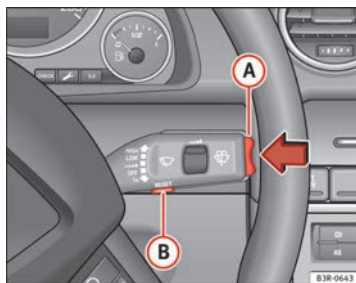

Fig. 58 Windscreen wiper lever: Function selector switch
- To change the speed limit, press the top or bottom of the function selector switch on the windscreen wiper lever (A) \Rightarrow Fig. 58. The speed limit displayed will then increase or decrease by 10 km/h at a time.
- Now press and hold the Reset button on the windscreen wiper lever (B) \Rightarrow Fig. 58 until the crossed out warning symbol for speed limit 2 appears on the display.